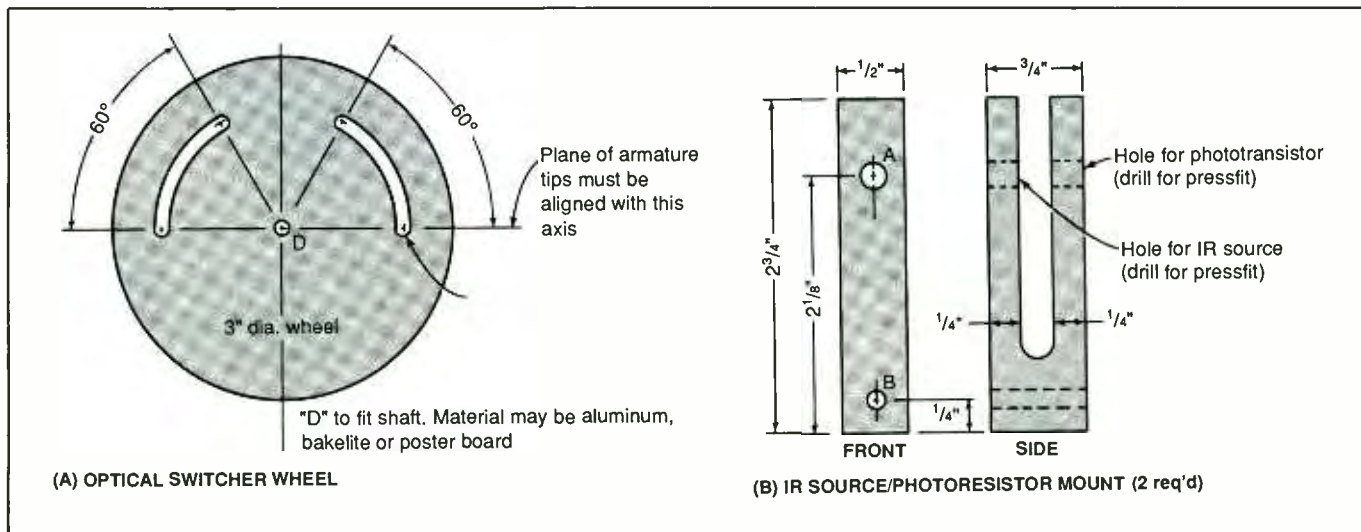

Fig. 3. Fabrication details for optical wheel (A) and IR source/receptor yoke mounts (B).
Whichever material you do use, start with a 4-inch square to allow sufficient excess for trimming. Locate the center of this square by drawing diagonal lines to opposite corners. Then, using a compass, scribe or draw a 3-inch-diameter circle on the material, centered at the point where the diagonal lines cross. Next, measure 1/16 in from the circumference of the circle and scribe or draw another concentric circle, referring to Fig. 3(A) for details.
Referring to Fig. 3(B), fabricate the yokes from strips of $\frac{3}{4} \times \frac{1}{2}$ -inch pieces of clear pine. After cutting them both to a length of $2\frac{3}{4}$ inches, mark the locations for the holes to be drilled. For holes A, make center-point marks on both sides of the wood pieces since you may have to drill different-size holes through both arms of the yokes to accommodate LED and phototransistor cases that are different diameters. Holes B